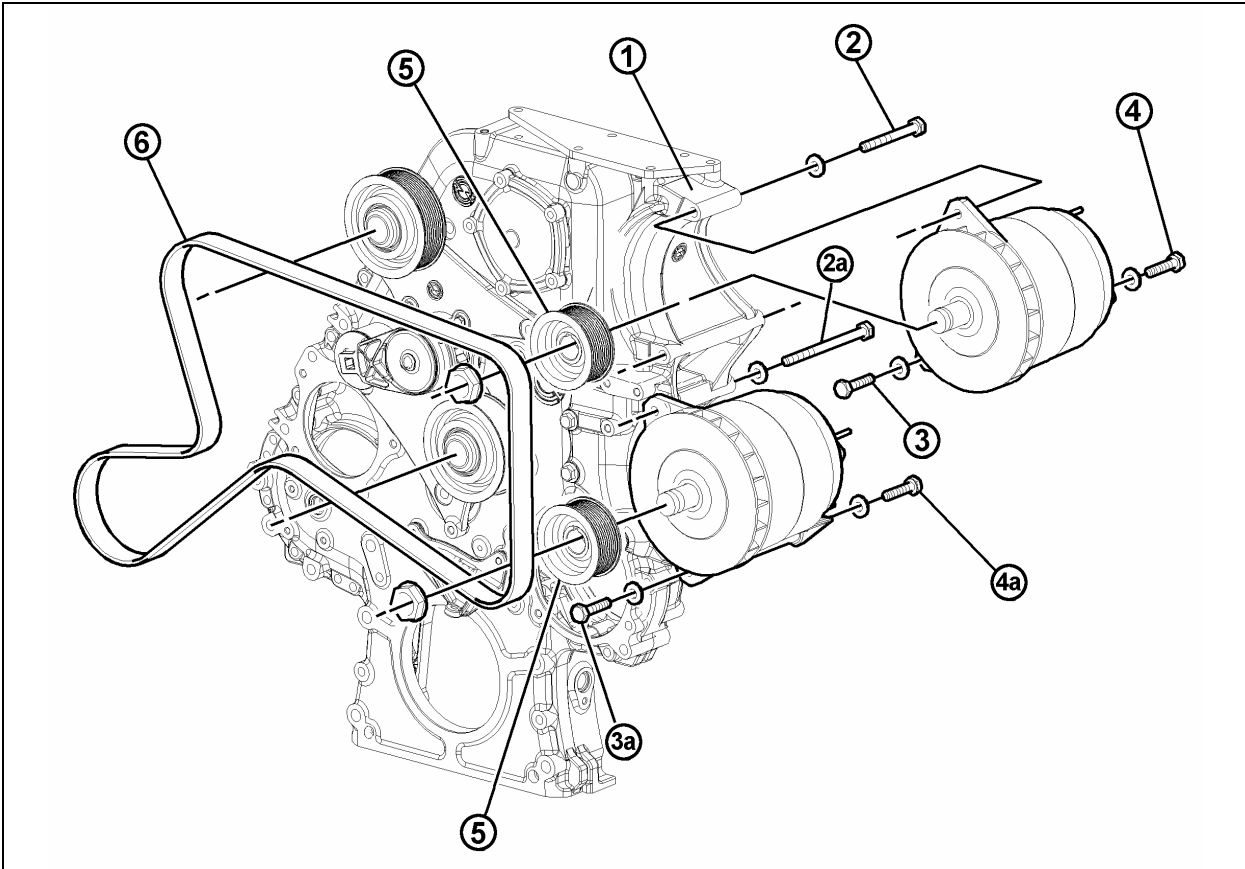

FIGURE 19: TWIN BOSCH ALTERNATORS INSTALLATION ON DDC SERIES 60 ENGINE 01077
1. Install alternator mounting bracket (1, figure 19) to the gear case. Use the four flanged phosphor alloy bolts on the pulley end of the bracket and the flanged nuts at the transmission end of the bracket;
2. Bolt the upper alternator to the bracket using the 4 inch bolt at the top (2, fig 19) and two inch bolts at the lower mounting bosses (3 and 4, figure 19). Bolt the other alternator using the 6 inch bolt at the top (2a, fig 19) and two inch bolts at the lower mounting bosses (3a and 4a, figure 19);
3. On the drive shafts of both alternators, install key, pulley, spring washer and nut (5, figure 19);
6. Install alternators belt (6, figure 19).
1. Insert a 3/4 inch socket drive into the automatic belt tensioner opening (fig. 19).